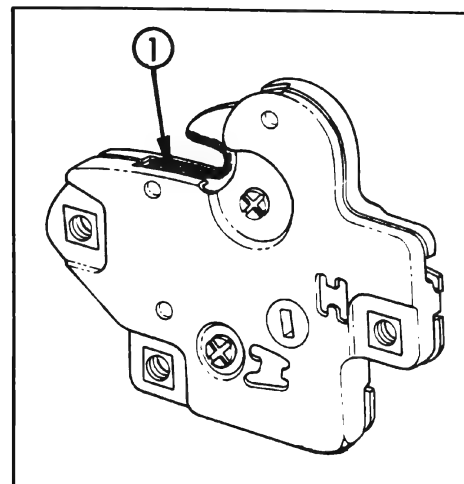

Figure 1-20—Rear Compartment Lid and Tail Gate Locks
6. Rear Compartment Lid and Tail Gate Locks. On rear compartment lid locks, apply a thin film of Lubriplate or its equivalent (Figure 1-20). On tail gate locks, apply a thin film of Lubriplate or its equivalent to the bolt at the striker contact areas.